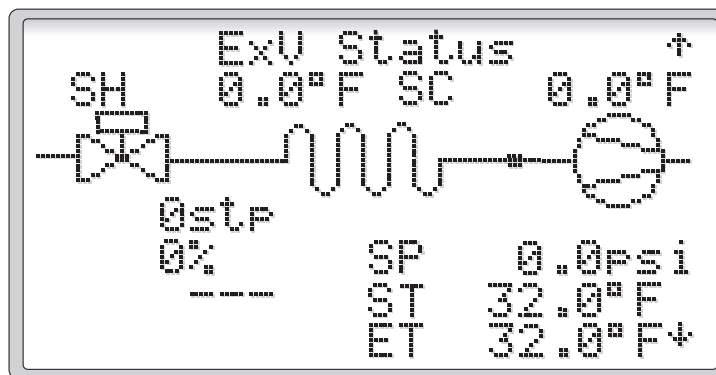

Figure 12
2.3.2 ExV Status (Figure 12)
Select the OCCUPANCY SCHEDULE from the MAIN MENU to enable a schedule to place the dehumidifier in the occupied mode. See Figure 12. To enable a schedule select Yes, and press **ENTER**. The schedule will need to be setup before this will be enabled. Pressing the **Prg** key from this menu allows the date and time to be modified.